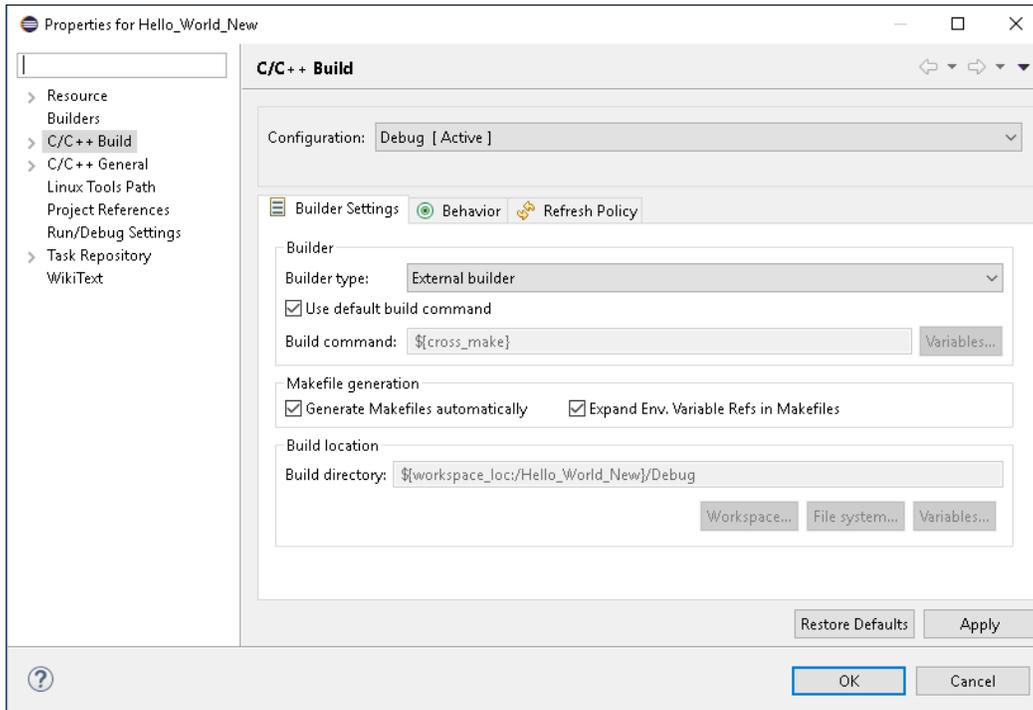

Figure 21. Properties for Hello_World_New dialog box.
8. Select the **C/C++ Build** option, as shown in **Figure 21**.